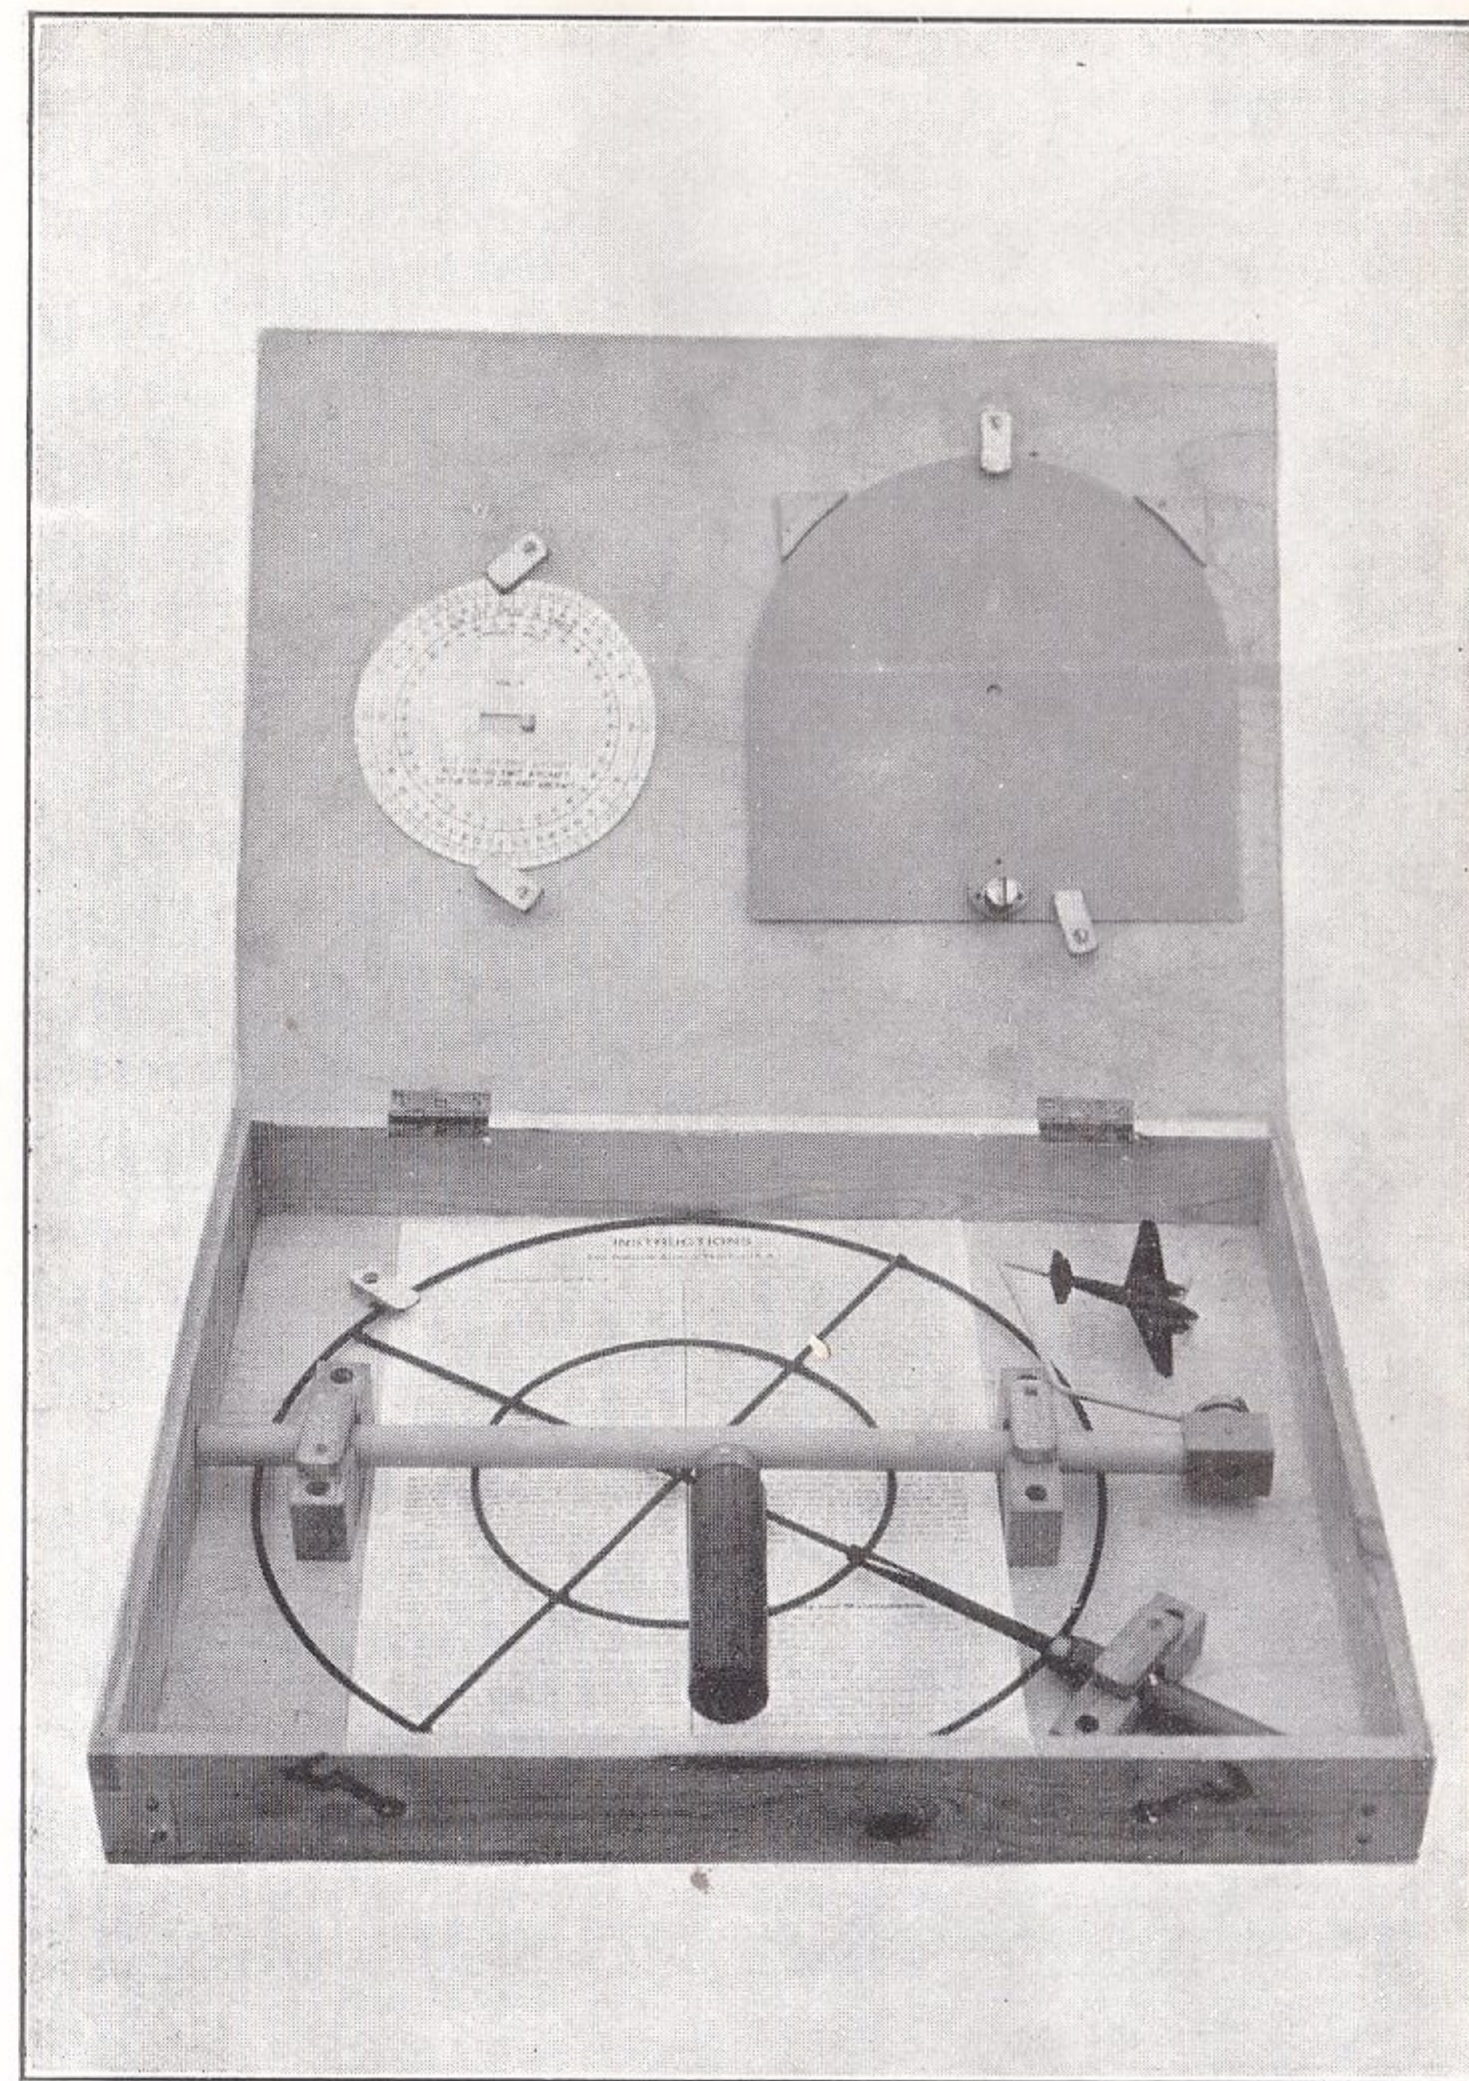

FIG. 17.—The portable aiming teacher (packed).
*Portable aiming teacher. (See Figs. 17 and 18.)*